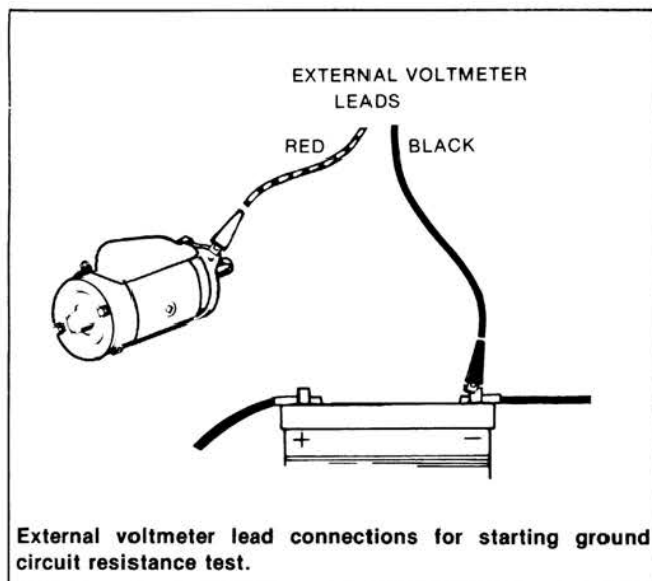

Figure 8
- Observing polarity, connect volt leads to battery ground post and starter motor case (Figure 8). Scratch through paint with clip for good connection.